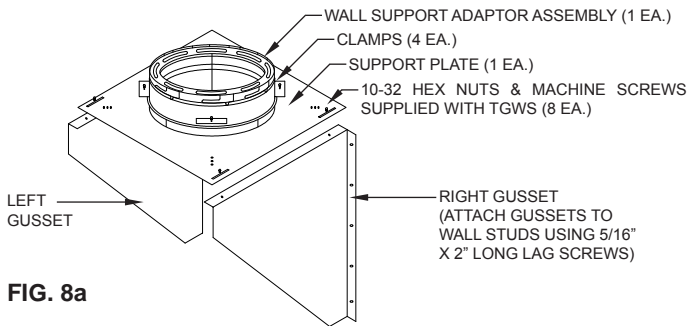

FIG. 8a
- Attach wall support plate to wall support adaptor using 4 clamps provided. Do not tighten. (See FIG. 8a).